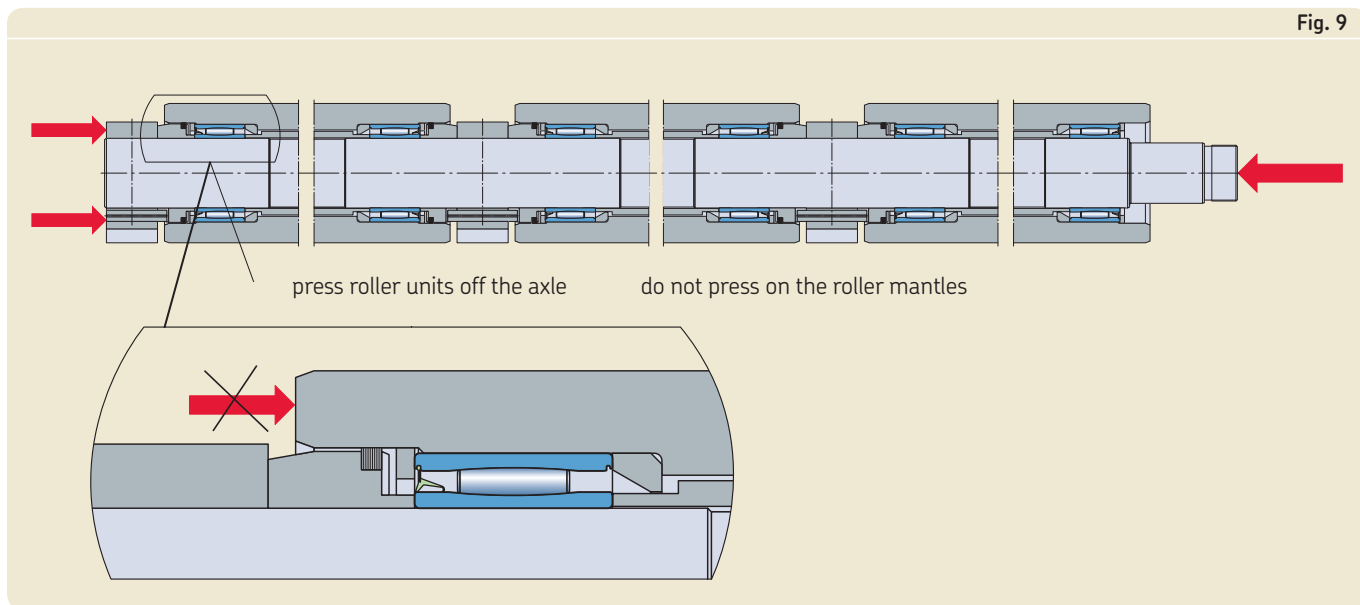

Fig. 9
- In some mills, the shaft is pushed out through all the rolls while one outer support block is resting against a stand, as shown in **fig. 9**.